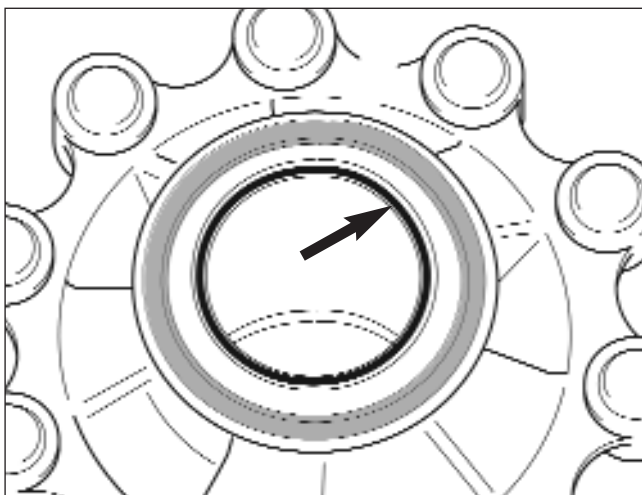

Fig. 4.21
**CAUTION:** Later hub assemblies, from Autumn 2009, also incorporate an O ring positioned in a recess on the inner bearing (Fig 4.21).